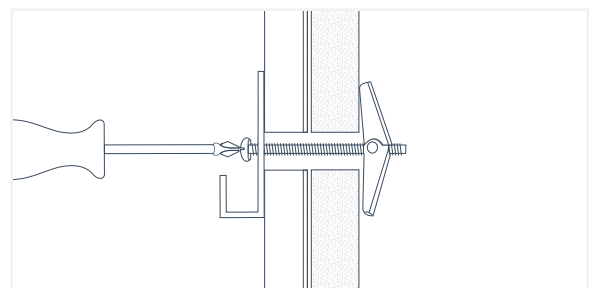

Fig. 45
4. Lightly pull forward on the entire assembly until you feel the wings grip against the back of the Wall&CeilingBoard panel or backer material and then proceed to tighten the bolt until the assembly is tight to the wall (Fig. 45).